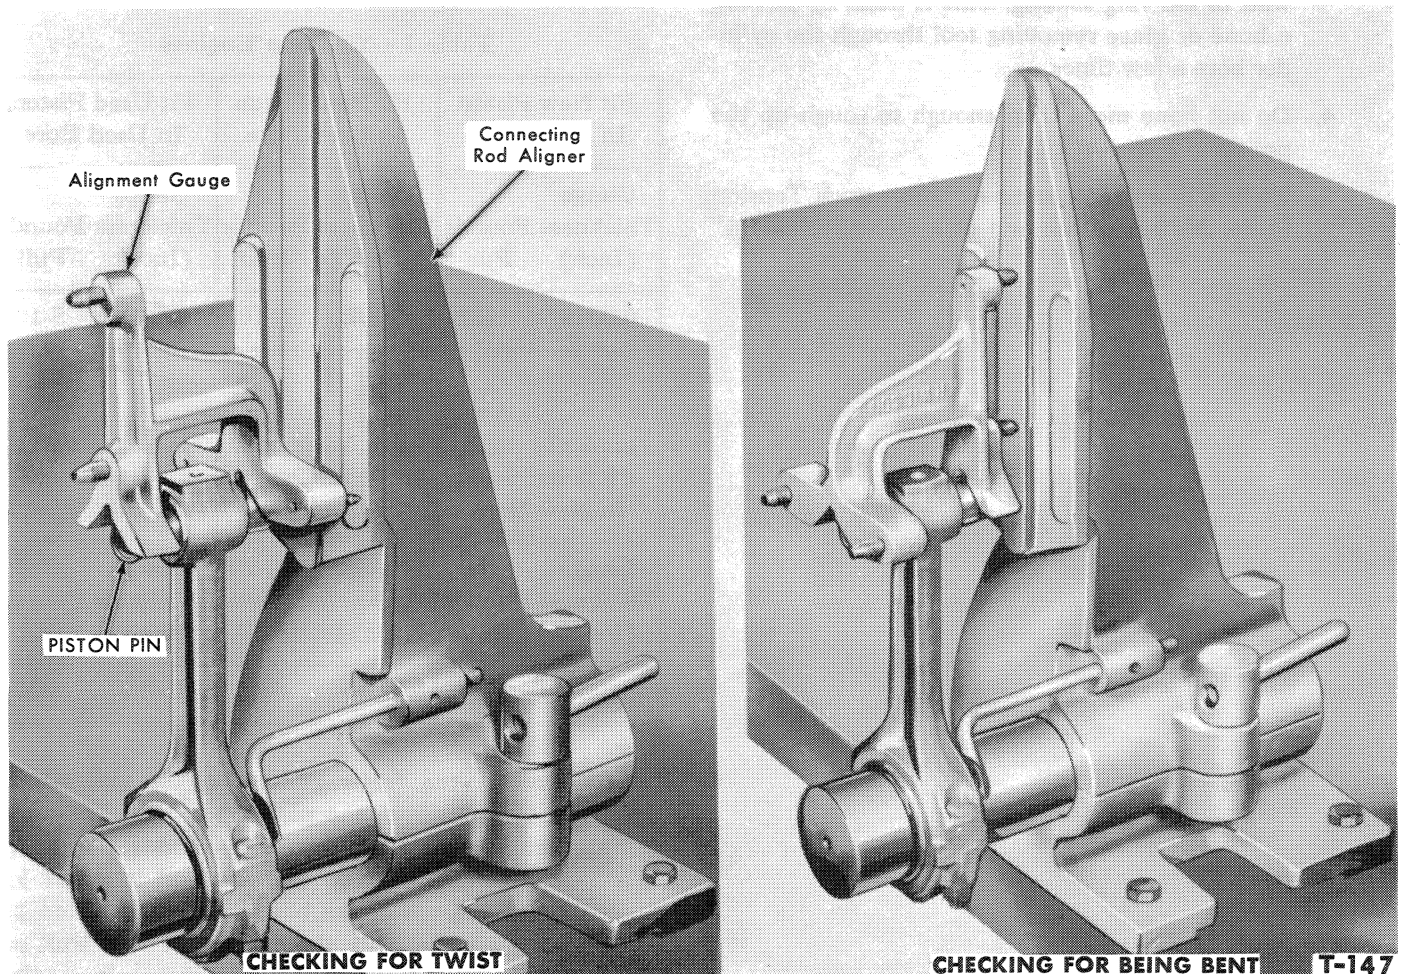

Figure 44—Checking Connecting Rod Alignment
1. Place the connecting rod in an alignment fixture as shown in Figure 44.